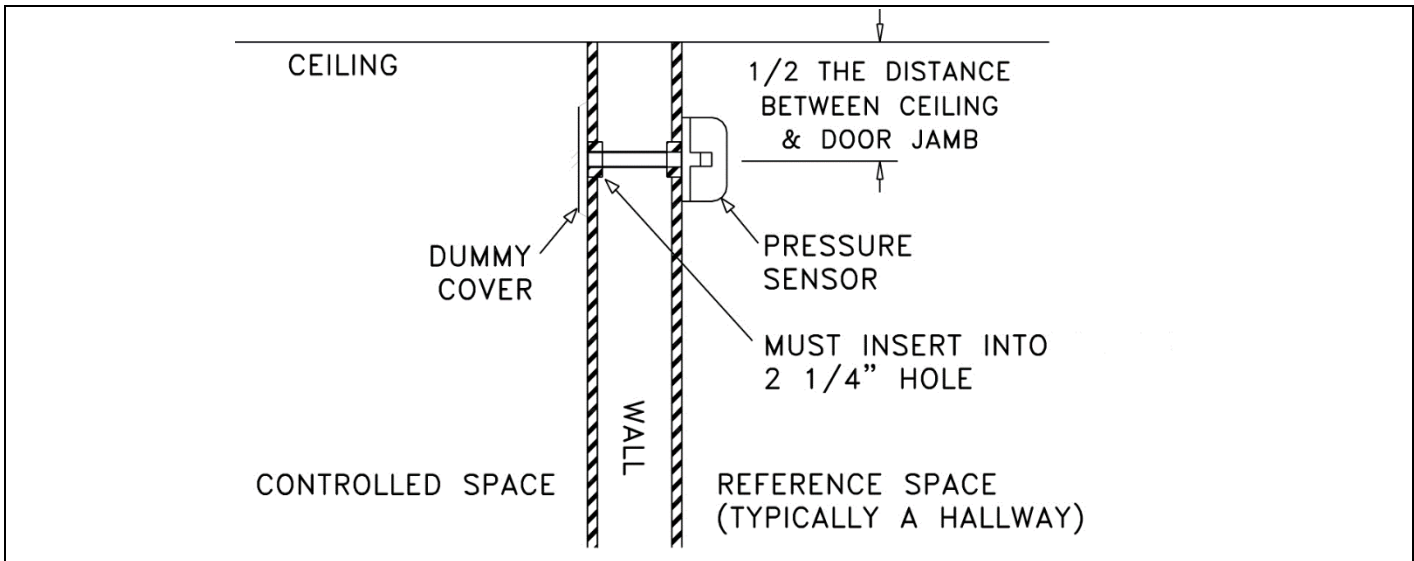

Figure 3: Cutaway View of Mounted Pressure Sensor
- From the side of the wall the sensor will be mounted, slide the sensor tube through the wall. Slide the dummy base over the end of the tube. Screw the pressure sensor base and dummy base to the wall (Figure 3).